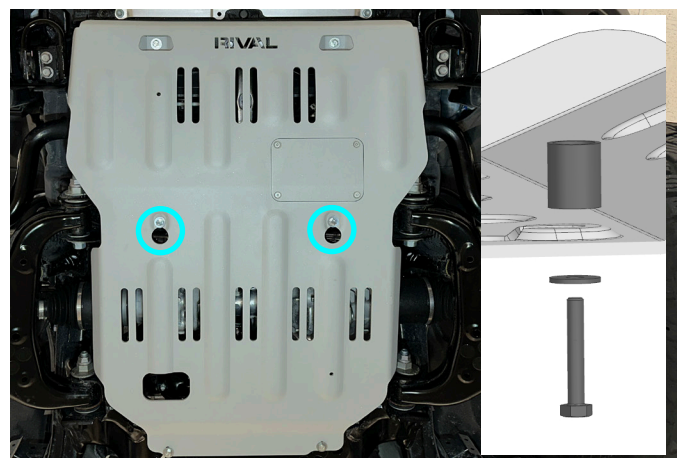

Fig. 4
4. Secure the middle of the engine skid plate (item 1) using remaining M8x60 bolts, M8 washers and spacers (items A, C, D) as shown in Fig. 4.